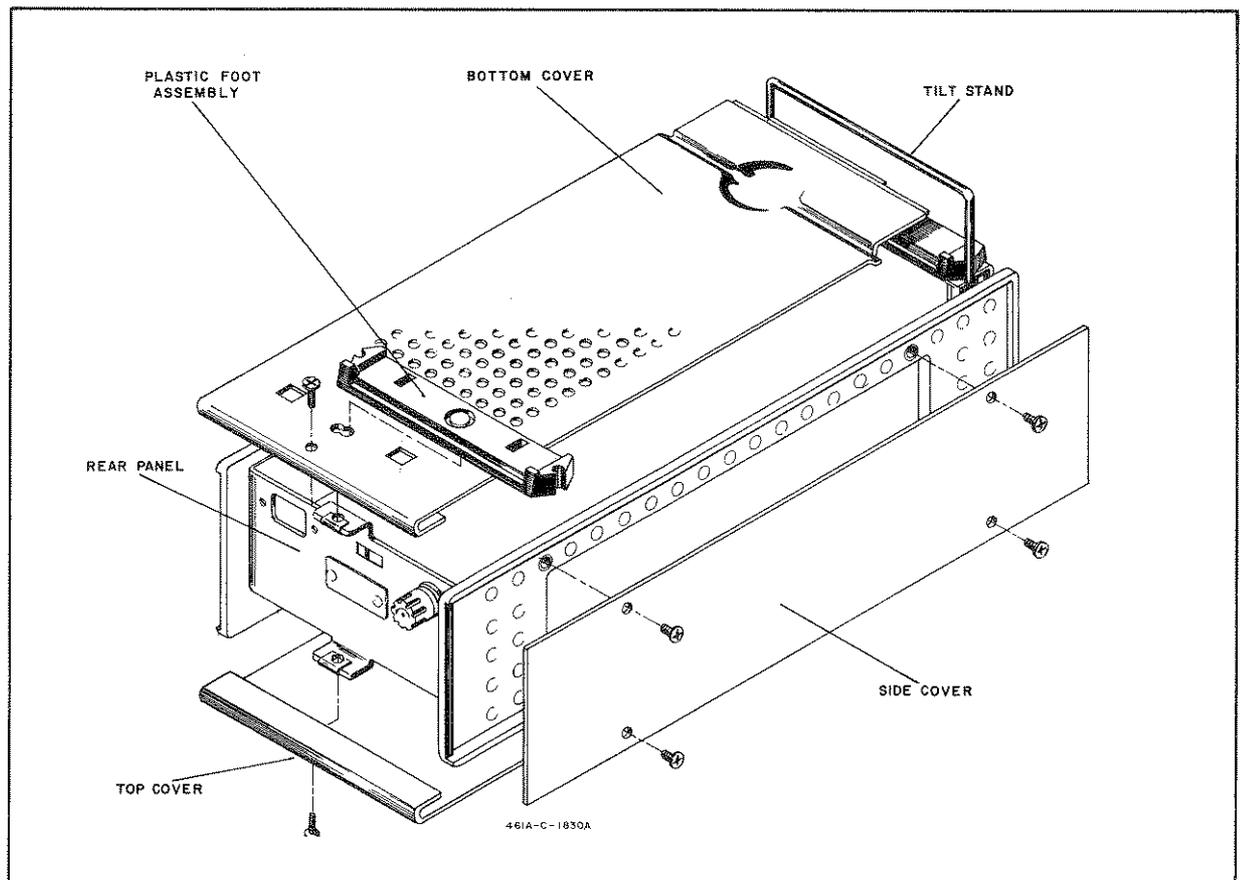

Figure 5-7. Panel Removal and Replacement
5-19. The Model 461A contains top, bottom and two side panels. For maintenance and calibration, only top or bottom covers need be removed. Side panel removal will be necessary only when replacing front or rear panel etc. Panel removal is illustrated in Figure 5-7.
- a. Remove top and bottom covers from Model 461A cabinet (refer to Figure 5-7).